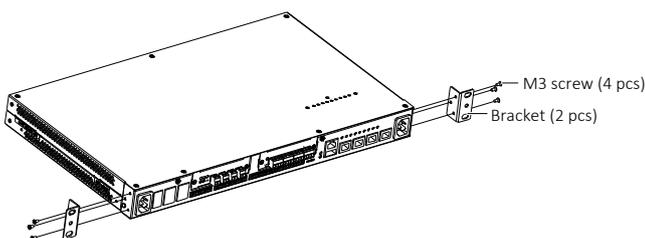

Figure 2-1 Fixing brackets
2. Fasten the brackets (accessories) to both sides of the monitoring equipment with the provided M3 screws, as shown in Figure 2-1.